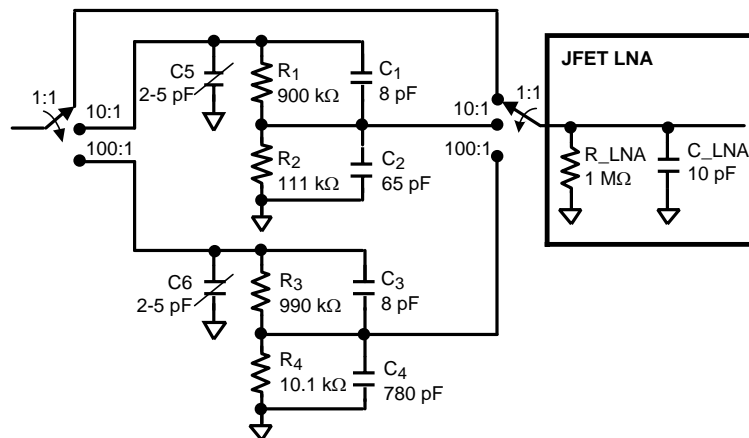

Figure 69. Front End Attenuator for JFET LNA Implementation
- Low noise ($< 0.98 \text{ nV}/\sqrt{\text{Hz}}$) to reduce the impact on the LMH6518 noise figure. Note that Figure 58 does not show the necessary capacitors across the resistors in the front-end attenuators (see Figure 69). These capacitors provide frequency response compensation and limit the noise contribution from the resistors so that they do not impact the signal path noise. For more information about front-end attenuator design, including frequency compensation, see *Related Documentation* for additional resources.
Figure 69 shows a front-end attenuator designed to work with Figure 68.